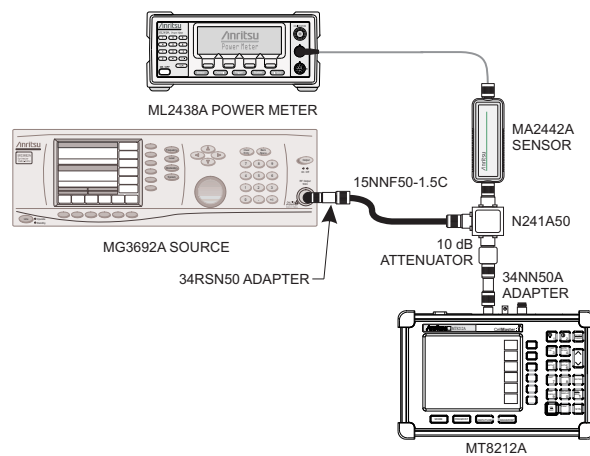

Figure 4. Power Meter Verification Setup
18. Using the power splitter, coaxial cable and adapters, connect the Cell Master to the signal source and the power sensor as shown in Figure 4.